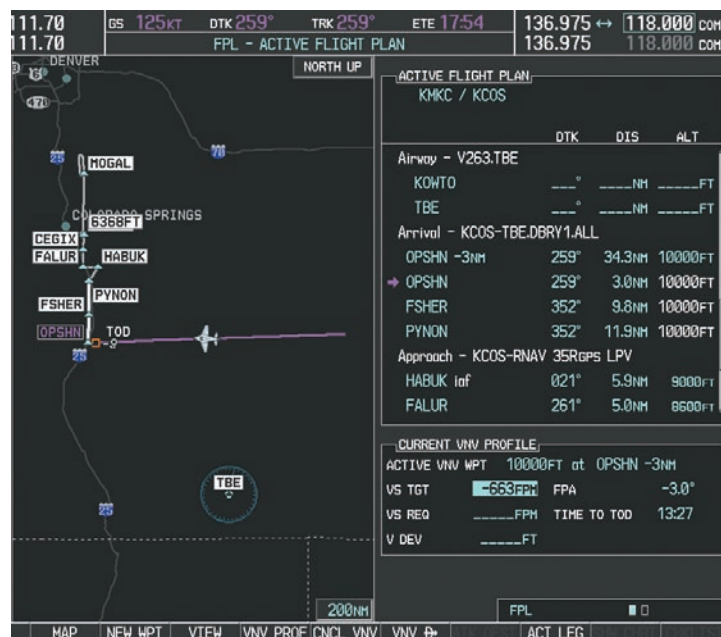

Figure 5-128 Adjusting the Descent
- Press the **VNV PROF** Softkey to place the cursor in the target vertical speed field (VS TGT) as shown in Figure 5-128.